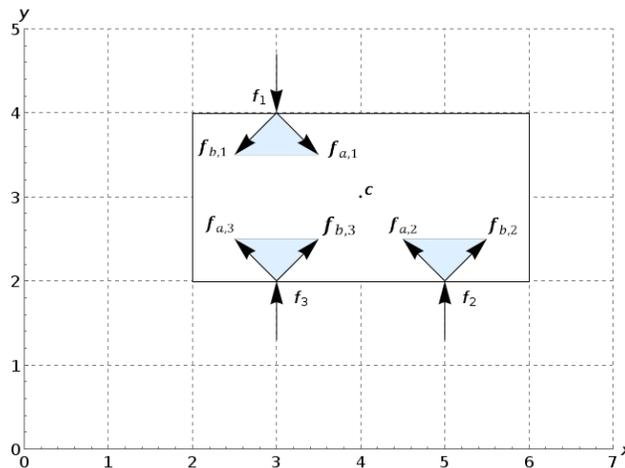

Figure 1: The friction triangles at the points  $\mathbf{p}_1$ ,  $\mathbf{p}_2$  and  $\mathbf{p}_3$ .
- The friction triangles are shown in Figure 1.